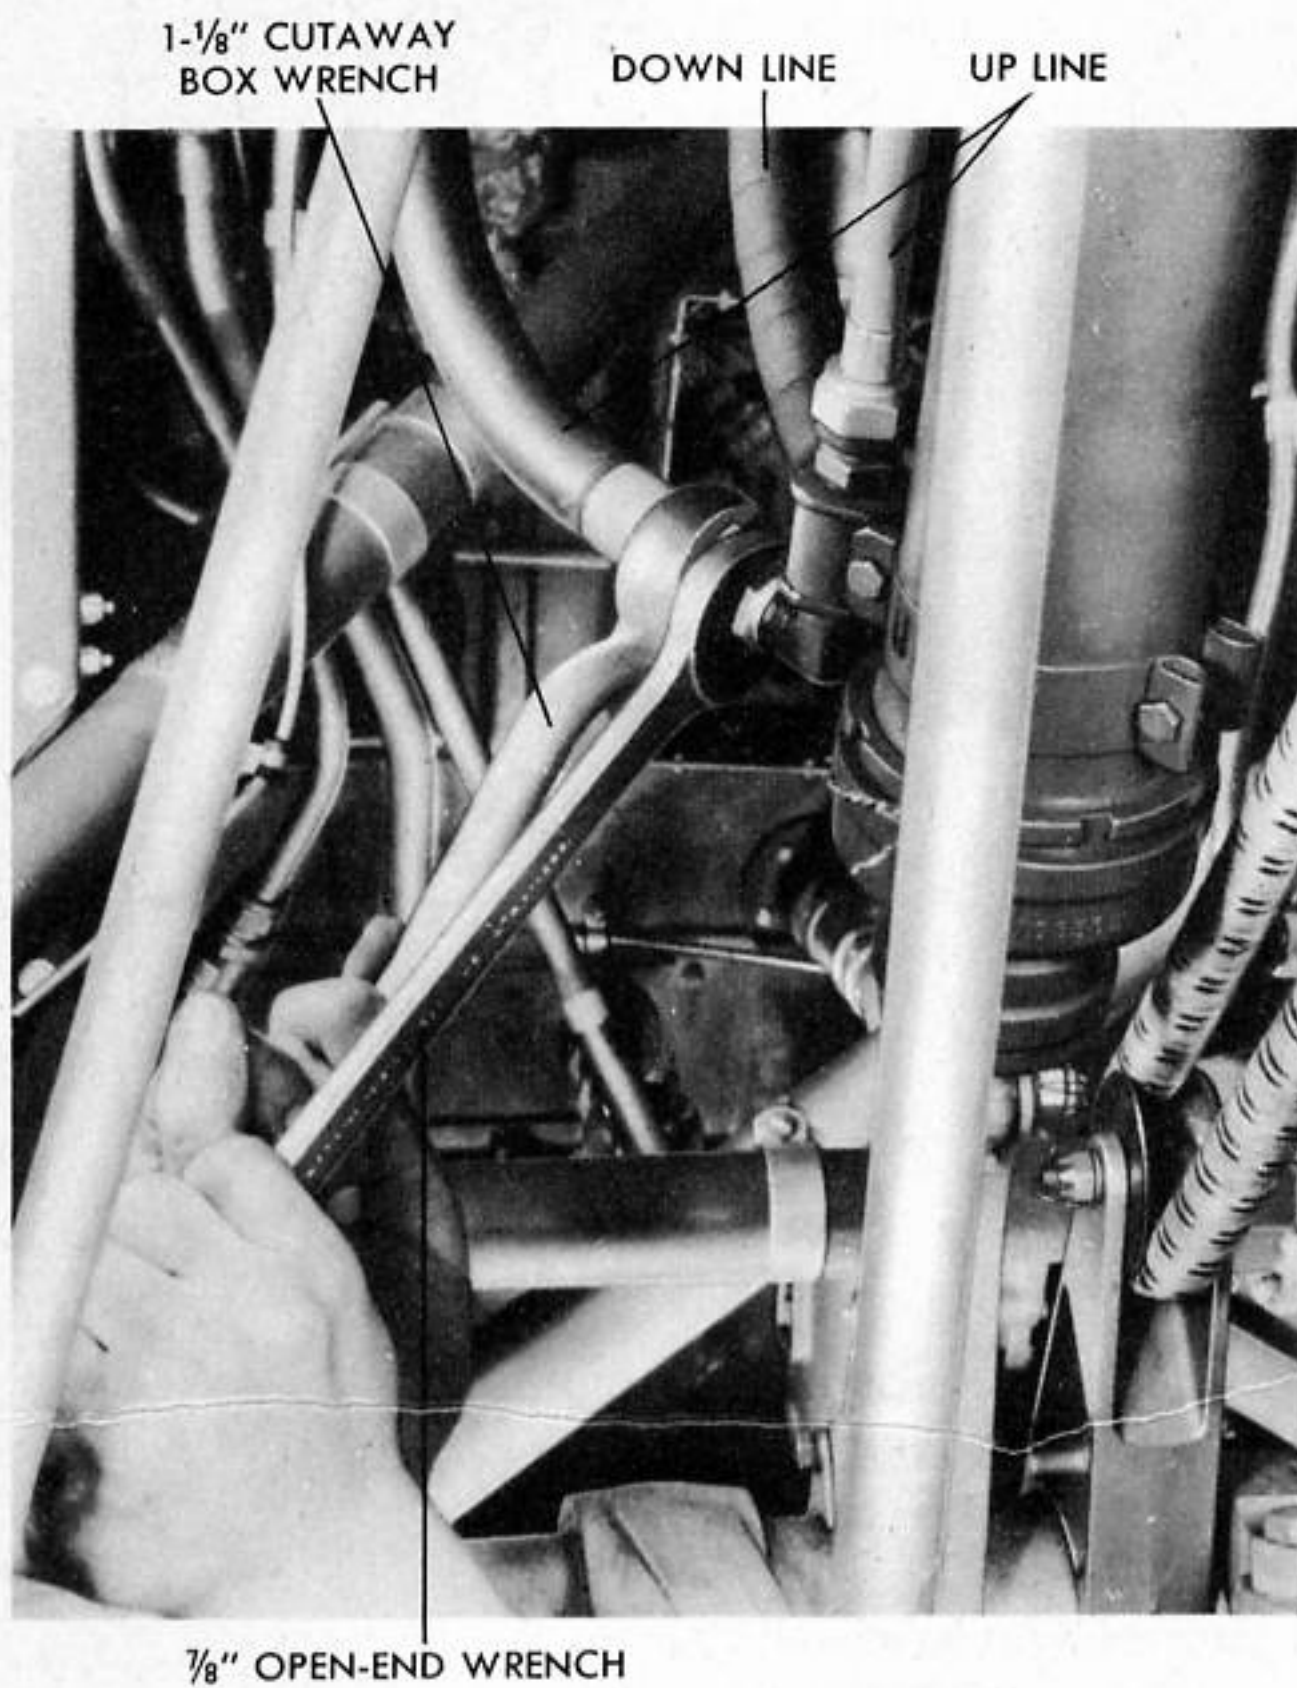

Figure 212 - REMOVING MAIN ALIGHTING GEAR ACTUATING STRUT
(29) REMOVAL OF MAIN LANDING GEAR ACTUATING STRUT. (See figure 212.)